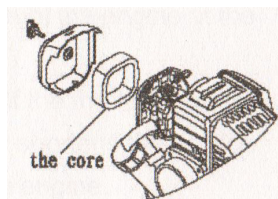

Fig: 3
2. Check and clean the air filter. The air filter must be cleaned often as a dirty air filter will lower the output power of the engine. If the air filter is blocked by dust, use petrol to clean the air filter, then dip in the oil, wring oil out and put the air filter back. (Fig 3)